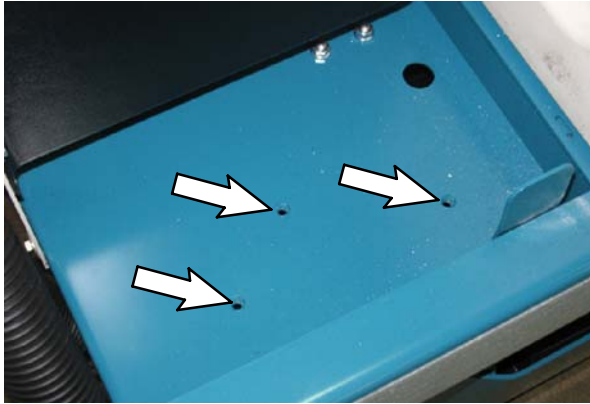

FIG. 15
25. Thread three M6 X 1.25 SEMS screws into the frame of the machine. Refer to Fig. 15.